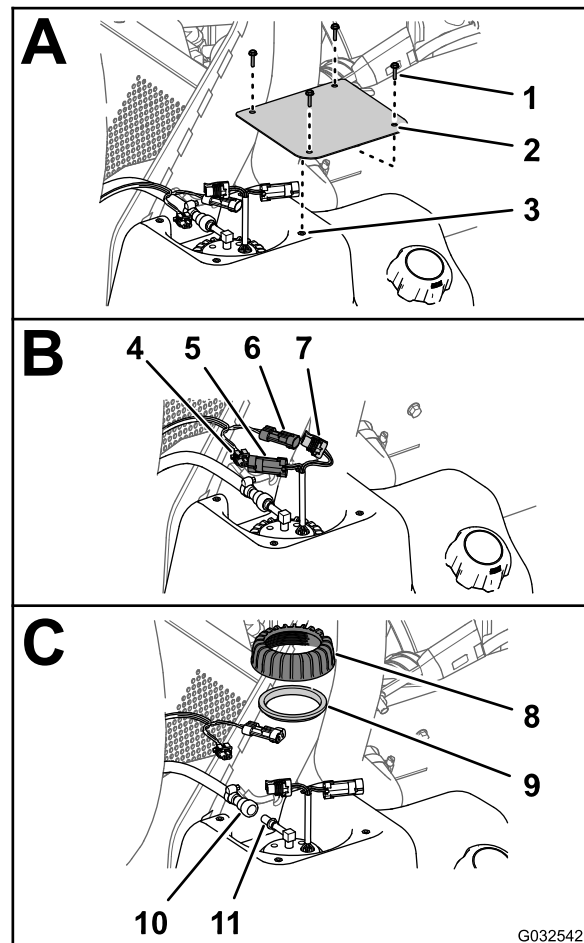

Figure 78
2. At the fuel tank, remove the 4 screws (#10 x 3/4 inch) that secure the cover to the top of the fuel tank, and remove the cover (Figure 78).
3. Disconnect the 2-socket connector of the machine-wiring harness from the 2-pin connector of the fuel pump/sending unit; disconnect the 2-pin connector of the machine-wiring harness from the 2-socket connector of the fuel pump/sending unit (Figure 78).
4. Slide the locking sleeve of the fuel-hose coupling away from the fitting of the fuel pump/sending unit and remove the coupling and hose from the fitting (Figure 78).
5. Rotate the nut for the fuel pump/sending unit counterclockwise and remove the nut and seal (Figure 78)